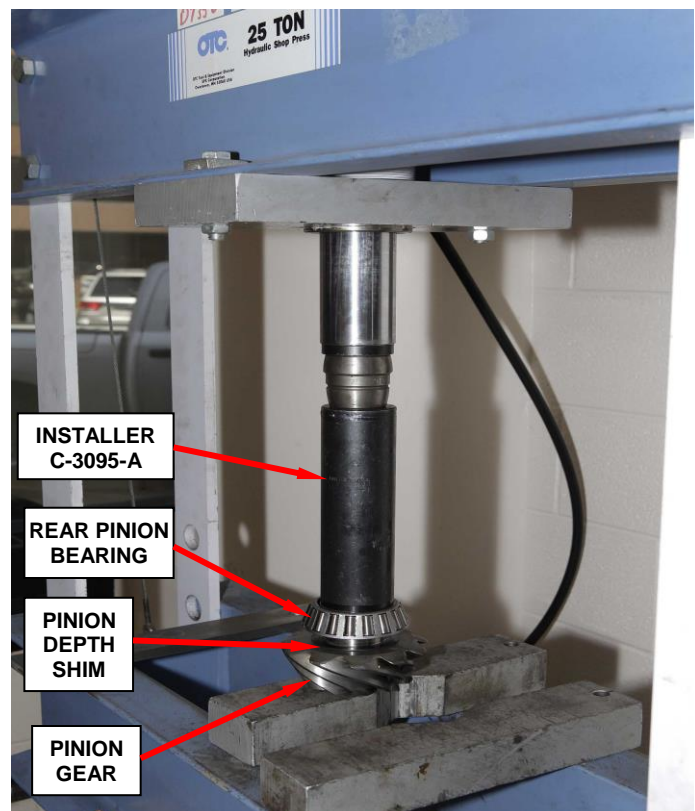

Figure 25 – Press Rear Pinion Bearing onto Pinion Shaft
21. Install the pinion depth shim selected in Step 19i. on the pinion gear shaft (Figure 25).
22. Using a hydraulic press, install the new rear pinion bearing on the pinion shaft with Installer C-3095-A (Figure 25).